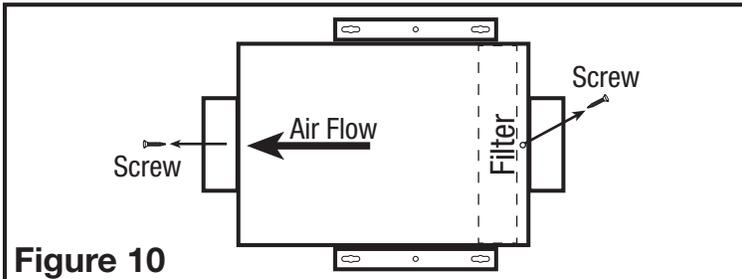

Figure 10
- Ensure the filter is facing the correct way and slide the filter into the slot in the housing. Make sure the filter is seated all the way to the bottom of the housing (**Figure 10**).